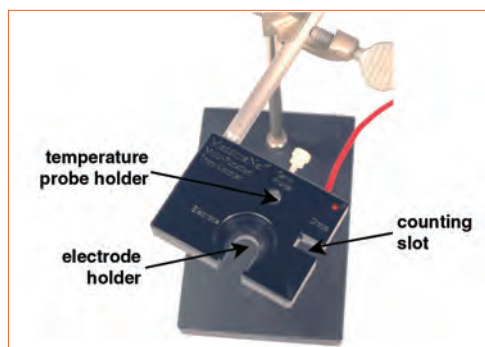

Figure 7.3. Drop counter.
1. Obtain the equipment listed above and complete the setup of the drop counter and pH electrode as shown in Figures 7.3 and 7.4.